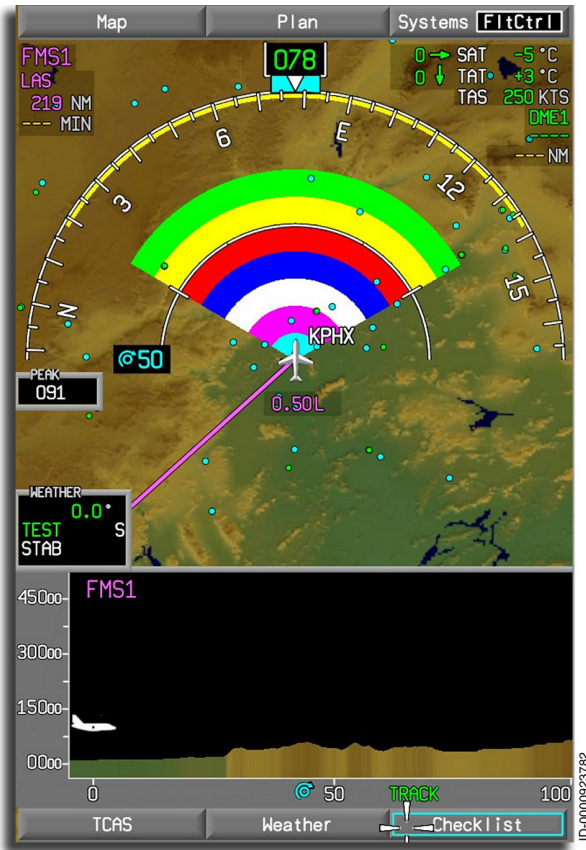

Figure 18-19
Figure 18-19 shows the MFD test pattern for Primus 880 installations.
1. Verify that the test pattern, shown in Figure 18-19, has the following: